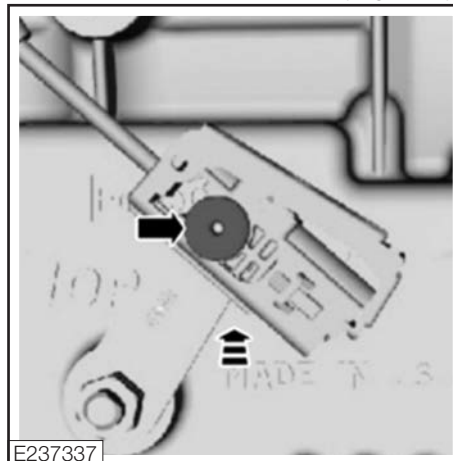

Figure 101
6. Connect the selector lever cable to the transmission manual lever (Fig. 101).